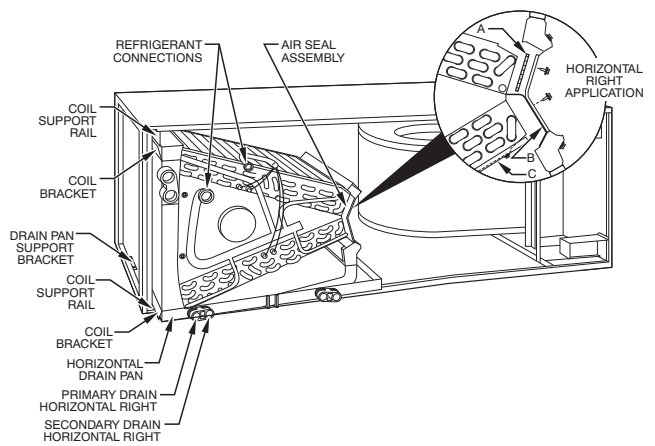

Fig. 5 - Conversion for Horizontal Right Applications Using A-Coil
1. Remove blower and coil access panels. (See Fig. 5.)
- a. Remove air-seal assembly from coil by removing 4 screws. (See Fig. 5.)